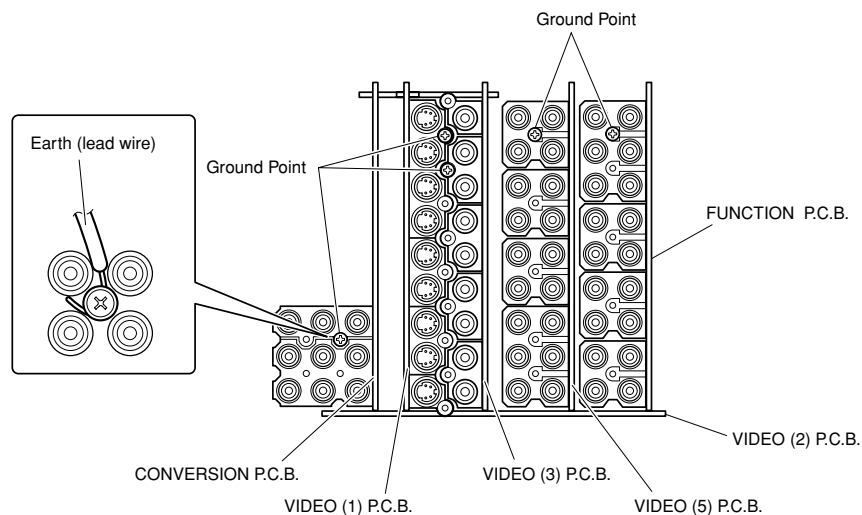

Fig. 7
- In this unit, the ground of P.C.B.s shown below is connected to the rear panel. When these P.C.B.s are removed from the rear panel, connect the ground to the rear panel or chassis, using a lead wire or the like. (Fig. 7)